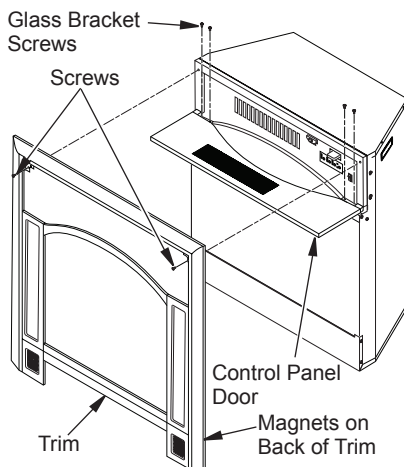

Figure 8 - Removing Trim
2. Remove 2 screws holding front trim in place. Pull gently to remove trim (see Figure 8). There are magnets on the lower portion of trim (see Figure 8)